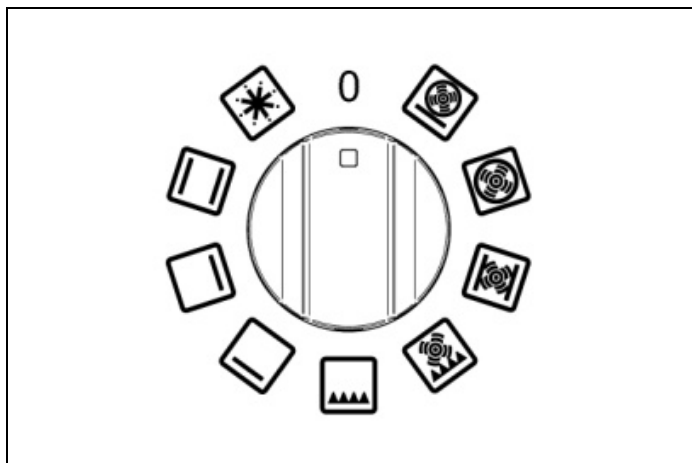
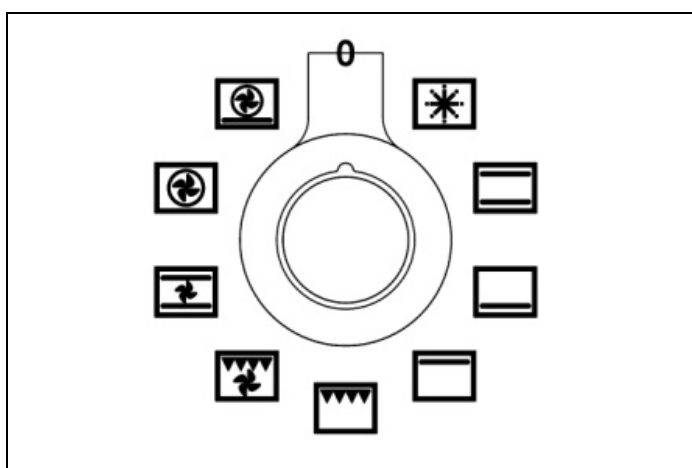
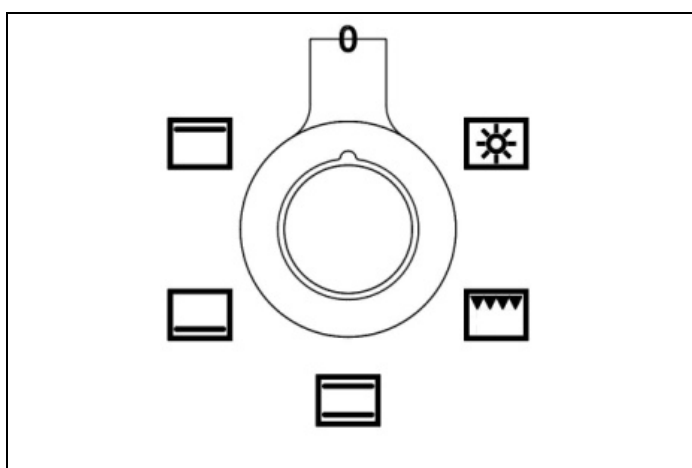

Fig. 23
Fig. 24
Fig. 25
- 1) Turn the functions knob (Fig. 23 - Fig. 24 and - Fig. 25) clockwise to select the function required.